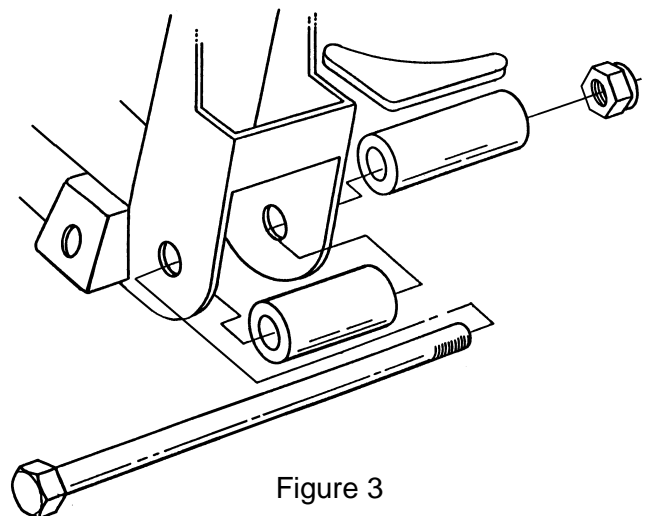

Figure 3
5. If you purchased a complete I.F.S. Package from *HEIDTS*, it was supplied with Full Lower A-Arms. Begin by installing the Spacers onto the crossmember. The holes where the lower control arms attach to the Crossmember must be enlarged to 5/8". Mount the Crossmember Spacers and the Rear Spacers which were supplied with the Lower Control Arms onto the Crossmember as shown in Figure 3 using the supplied Inner Bushing Bolts, Nuts and a temporary spacer under the Nuts. **DO NOT** use the A-Arms for this operation as the welding heat will melt the rubber bushings. Tighten the Bolts and Nuts tight. Weld the Rear Spacers to the Crossmember all around. Weld the Crossmember Spacers as far as possible inside the crossmember on both ends. Position the Gussets horizontally, not vertically, against the Rear Spacers and the back of the Crossmember. Weld Gussets to Spacers and Crossmember. When it cools, remove the bolt.